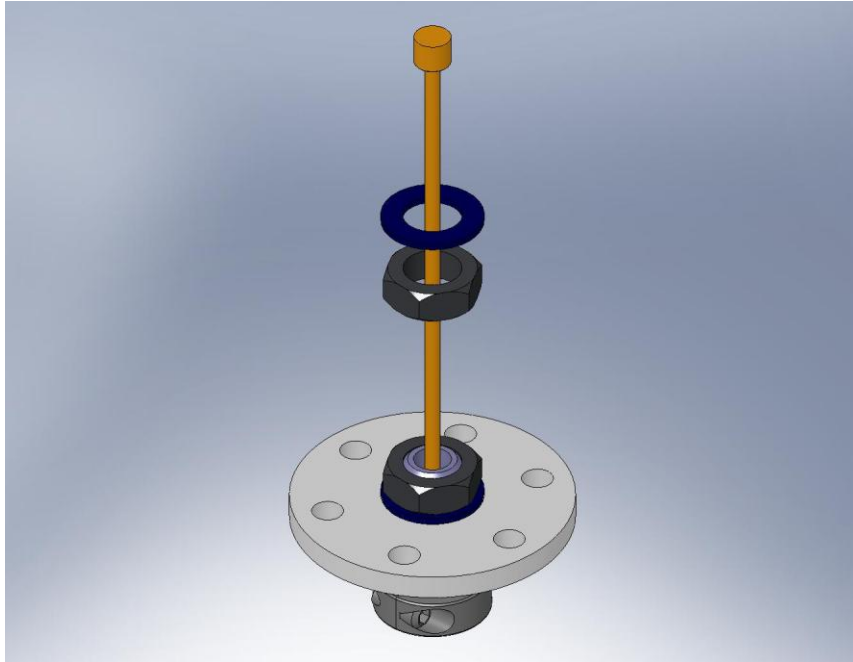

Figure 3.83. The hardware for the top Flexure Mount must go on before the Flexure Assemblies are inserted into the Springs.
- Slip a nut and a washer onto all (3) of the **Flexure Assemblies** (D071431), as shown in Figure 3.83.